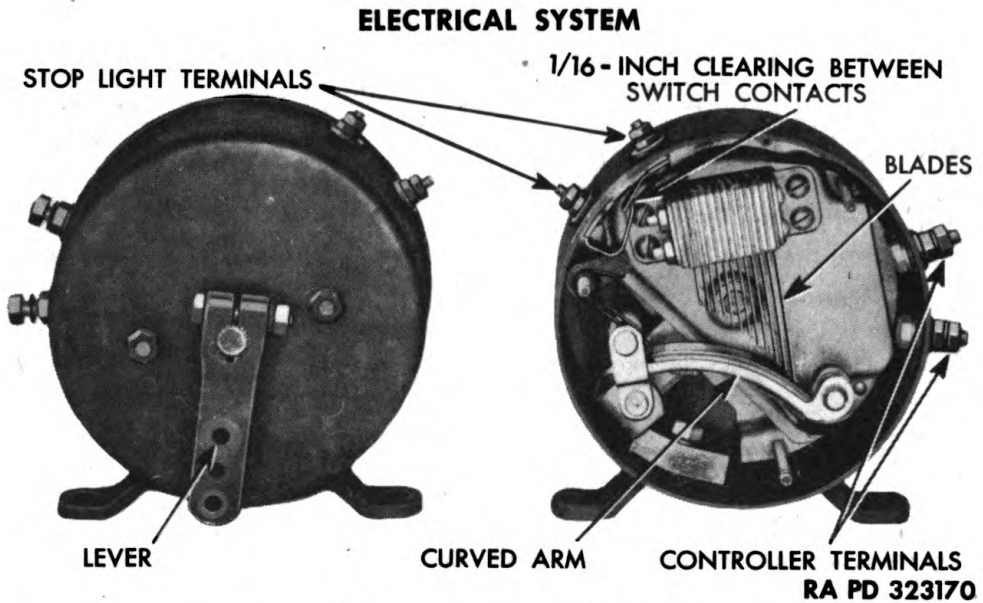

Figure 171 — Electric Brake Controller
70. DESCRIPTION AND OPERATION (fig. 171).
a. **Stop Light Switch** (fig. 171). Remove cover. Bend copper stop light switch contacts with thin, flat-nosed pliers so there is $\frac{1}{16}$ -inch clearance between the contacting surfaces.